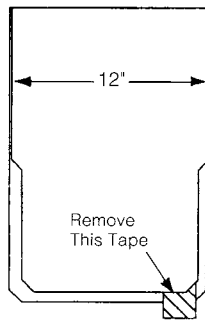

Figure 19-18: Shangle Ridge®.
5. Before nailing, be sure to remove the protective tape from the sealant between the cap's two layers (Figure 19-18).